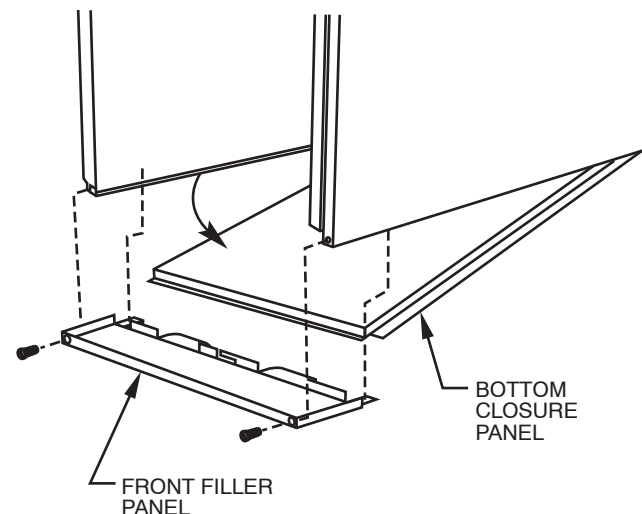

Fig. 26 - Removing Bottom Closure Panel
1. Tilt or raise furnace and remove two screws holding front filler panel. (See Fig. 26.)